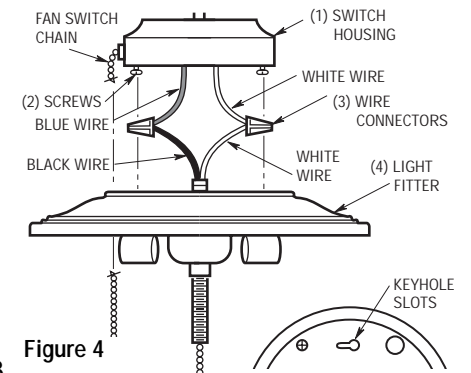

Figure 4
2. Remove the cover from switch housing (1) below ceiling fan. Replace screws (2) loosely in switch housing. Do not tighten. (Figure 4.)
5. Carefully tuck all wires and splices into the switch housing (1).
6. Position the light fitter (7) so that the hole in the fitter aligns with the fan switch chain. Then attach the light fitter by aligning screws (2) in switch housing (1) with keyhole slots in top of fitter. Turn light fitter slightly to hold in place and then tighten screws securely from bottom. (Figure 4.)